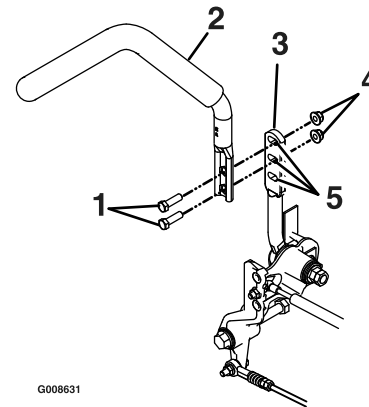

Figure 39
1. Remove the two bolts holding the control lever to the control arm shaft (Figure 39).
2. Loosen the lower bolt just enough to pivot the control lever fore or aft Figure 39. Tighten both bolts to secure the control in the new position.